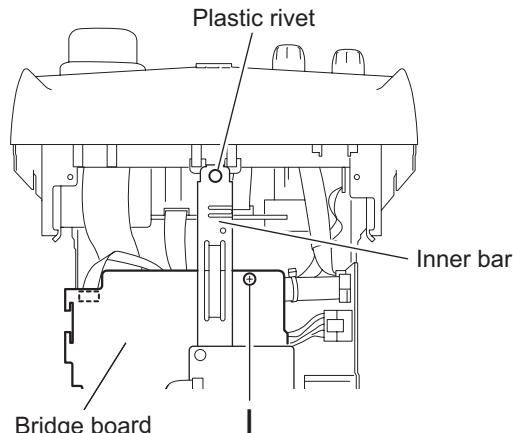

Fig.22
2.1.9 Removing the bridge board / regulator board / heat sink (See Fig.22~27)